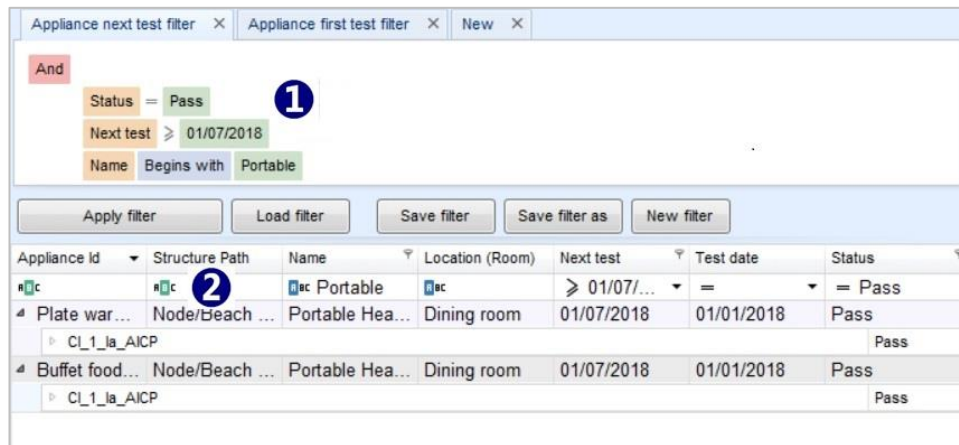

Figure 6.18: Appliance Custom Data filter design options
- Custom filter**: Right click within Results view area to open a menu window and check Custom filter option to open Custom filter design tab at the top of Result view area (❶), see **Figure 6.18**.
- Row filter**: Custom filter design is offered as a row beneath Address row of the Appliance table (❷), see **Figure 6.18**. Custom filter and Row filter are equivalent. Settings of the Custom filter are mirrored to the Row filter and vice versa.